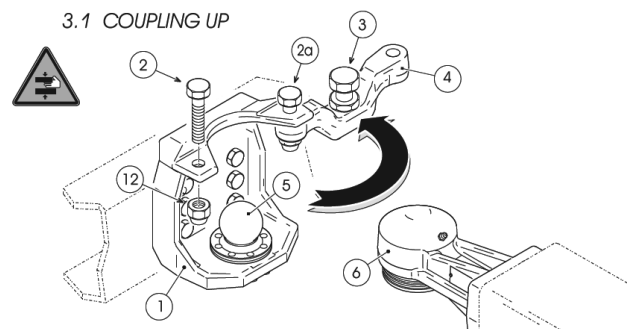

Figure 6.12
- ✓ Remove safety lock screw (2), recover and keep the relative self-locking nut (12) aside then also loosen safety lock screw (2a) and turn out the adjustment screw (3) by at least five turns (Figure 6.12).
- ✓ Rotate the safety cover bar (4) outwards so that it is completely open.